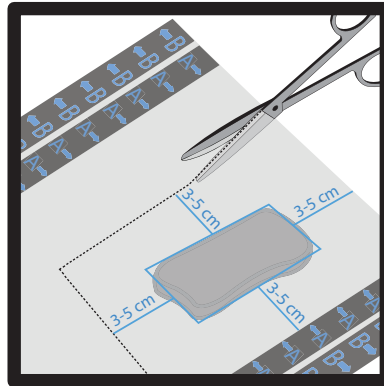

Figure 4
9. Remove the drape from the Dressing Kit. Size and trim the drape to cover the wound plus a 3-5cm border of intact skin (extra pieces of drape can be used to seal dressing leaks if needed). Always keep one side of the drape intact for ease of dressing application (**Figure 4**).